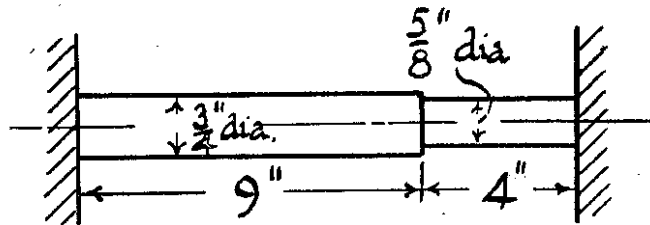

FIGURE 1
1. A steel bar, 13 in long and  $\frac{3}{4}$  in diameter, is turned down at one end to  $\frac{5}{8}$  in diameter for a length of 4 in and then placed between two stops as shown in figure 1. Determine the stresses in the two parts of the rod for the following separate changes of condition.